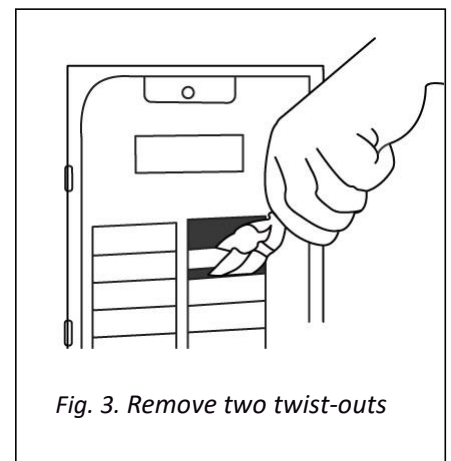

Fig. 3. Remove two twist-outs
5. Remove two twist-outs from the panel cover at the location of the SPD (see Fig. 3).